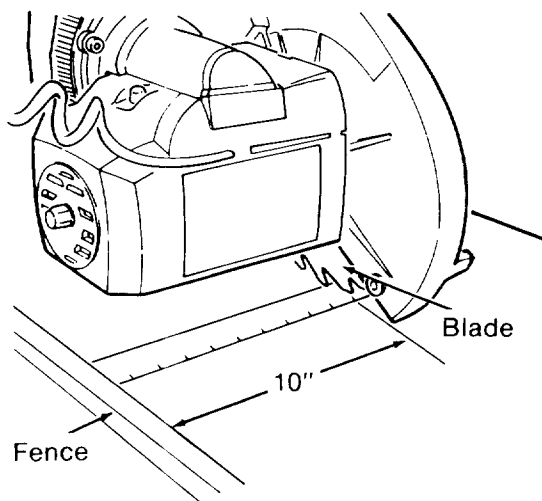

Fig. 98 - Out-Rip Reference
7. Move the *motor* until the *blade* is 10 inches in front of the *fence*. Use a framing square, ruler or tape measure to measure this distance. (Figure 98)